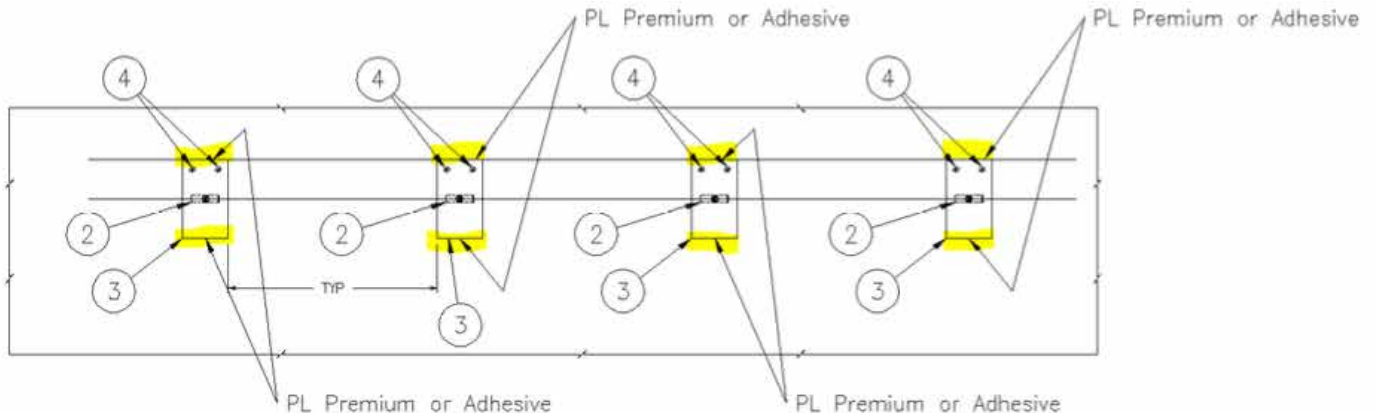

Fig. 10
Step 7A - Apply PL Premium or adhesive to the top and bottom of the wood mounting blocks or along the top and bottom of the 2x4 or 2x6 where the Beam will be attached. (Fig. 10)